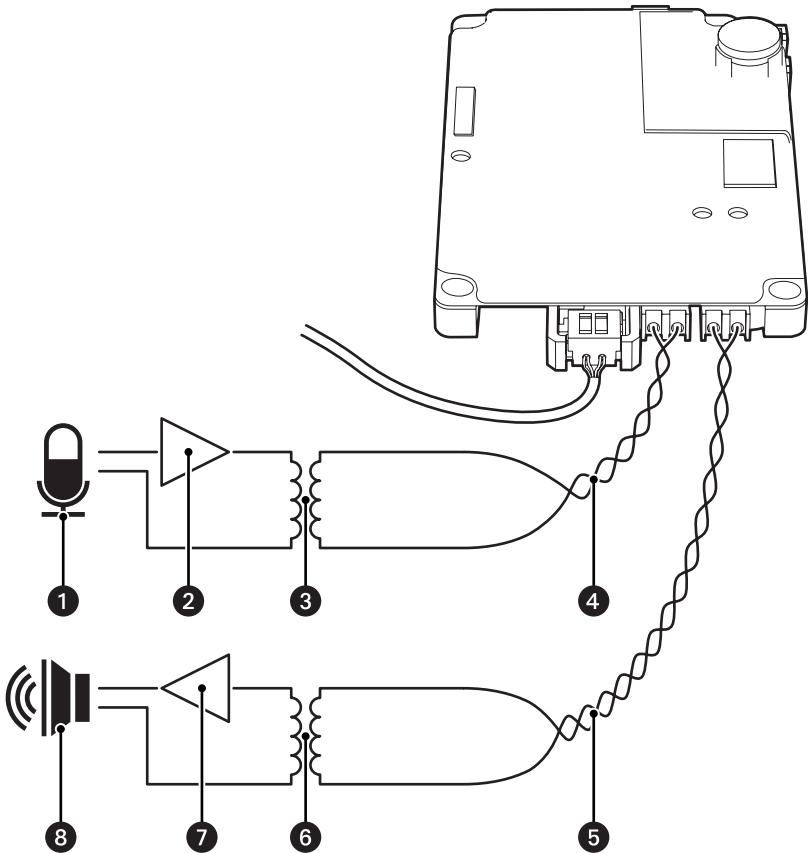

Figure 10. Connecting Audio to the TXB-N
- To take full advantage of the distance and noise immunity benefits of audio, you must use a 600-ohm impedance matching transformer and twisted pair cable (refer to Figure 10).